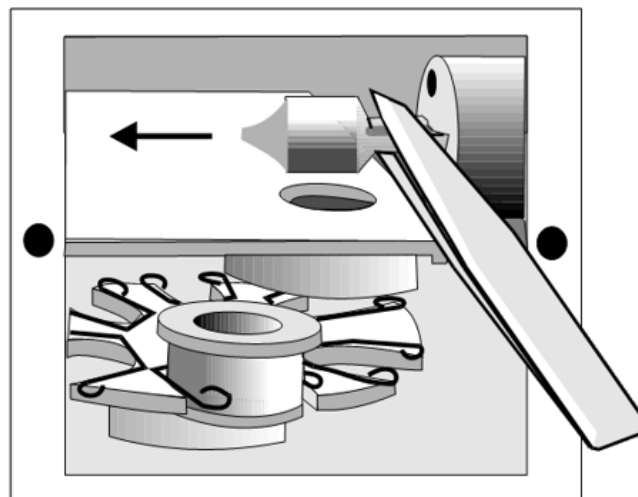

Figure 151: Removing the Lamp
4. Grasp the lamp with plastic tweezers and pull the lamp out of its receptacle (Figure 151).